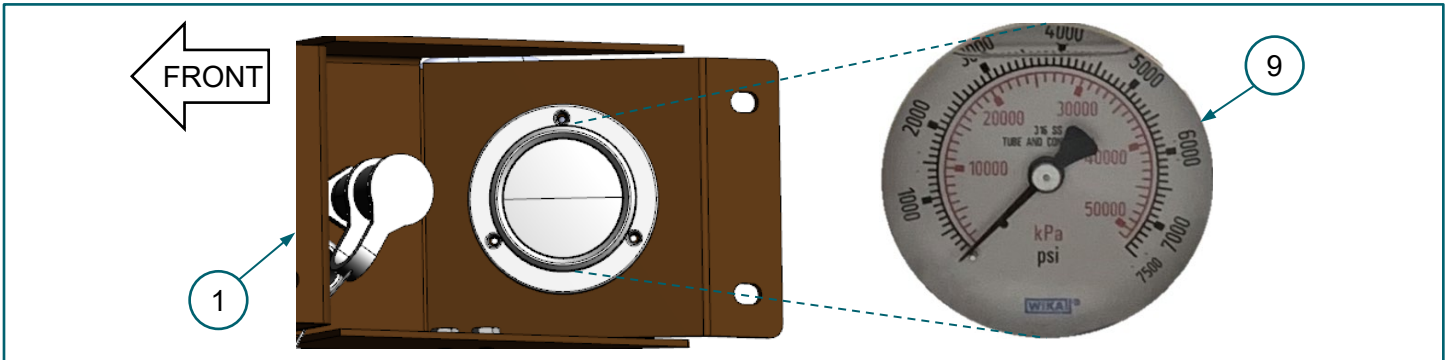

FIGURE 3-1. (1) fuel fill panel, (9) HP fuel gauge
WARNING Verify (9) HP fuel gauge on (1) fuel fill panel reads approximately zero before proceeding. FIGURE 3-1